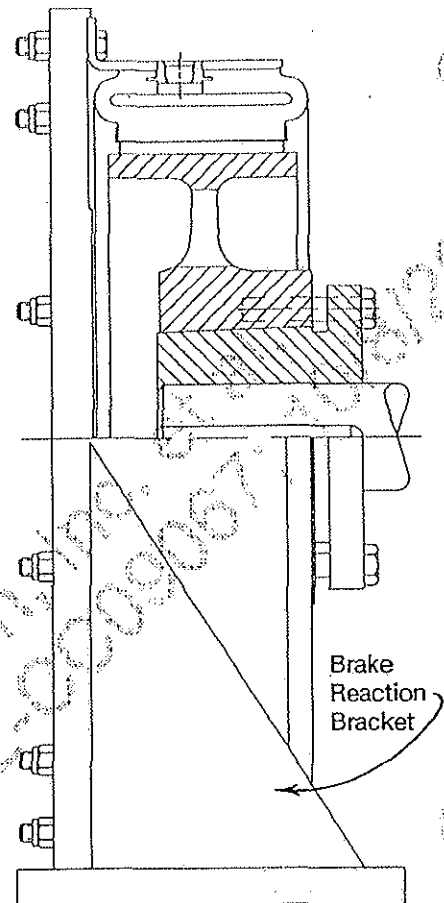

Fig. 4
2.1.3 Figure 4 illustrates a typical CB brake application. The drum and drum hub are attached to